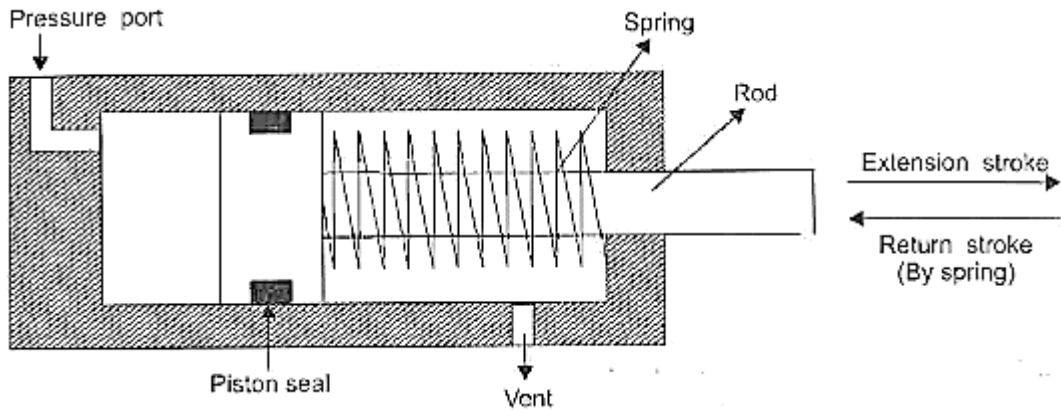

Fig. 5.1 Construction features of a single acting cylinder
- ▶ A single acting cylinder has one working port. Forward motion of the piston is obtained by supplying compressed air to the working port. Return motion of the piston is obtained by the spring placed on the rod side of the cylinder. A schematic diagram of a single acting cylinder is shown in *Fig. 5.1*.